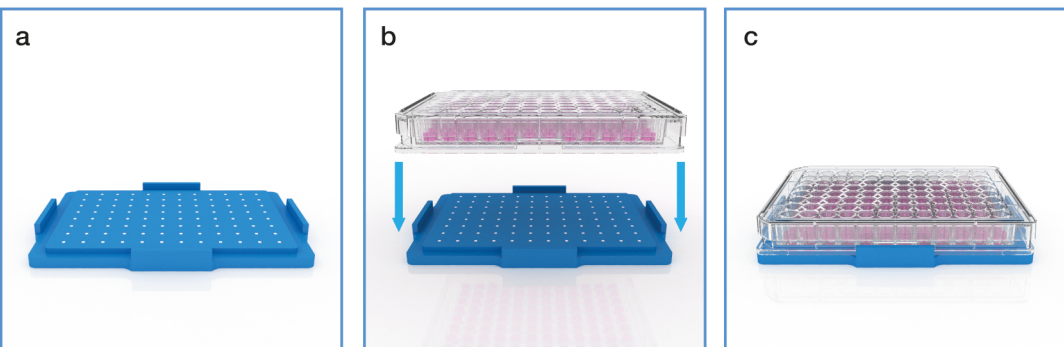

Figure 1: Take the bioprinting drive (a) and place a 96-well plate with Cell-Repellent Surface atop the bioprinting drive (b) to aggregate the cells (c).
- 3.1. Place the 96-well plate with Cell-Repellent Surface on the spheroid drive and dispense 150 μL of the cell suspension into the wells of the plate (Figure 1).